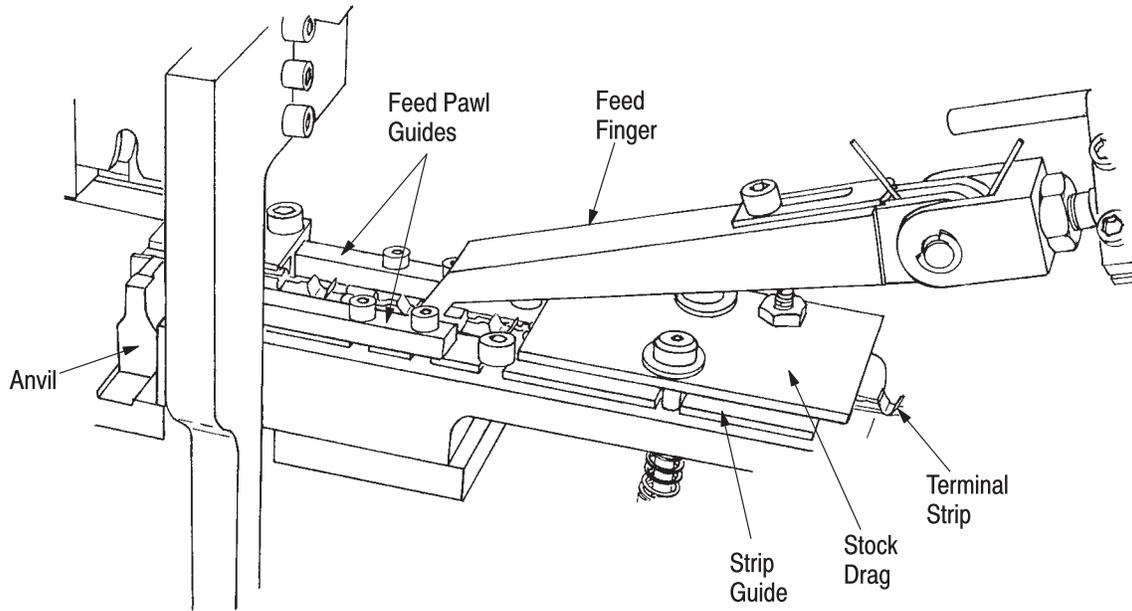

Figure 6
5. Lift the stock drag, and feed terminals under it toward the feed finger. (See Figure 6).
If a section of terminal strip is in the way, lift the stock drag (item 41) and feed finger (item 75) and pull the strip back so the lead terminal is between the strip guides. See Figure 6.
2. Lift the stock drag and feed finger and pull the terminal strip out of the applicator. See Figure 6.
3. Loosen both of the two bolts (item 74, sheet 3 of 4) that attach the strip guide plate to the base plate, and remove the bolt which is farther from the anvil.
4. Slide the strip guide plate away from the crimp area to allow access to the two bolts (item 52, sheet 3 of 4) holding the shear plates to the strip guide.
9. Slide the strip guide plate into position up against the anvil and insert the screw removed in Step 3 (item 74, sheet 3 of 4).
11. With the slug blade between the shear plates, tighten the screws (item 74) holding the strip guide plate to the base plate.